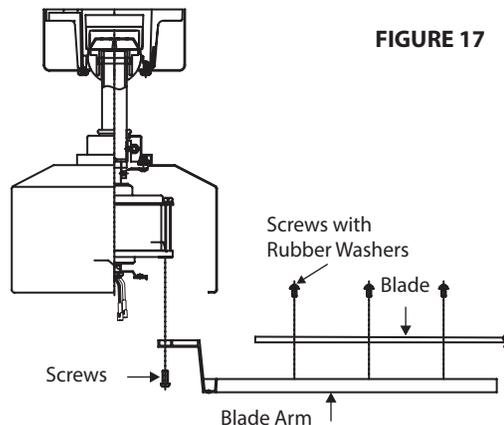

FIGURE 17
1. Attach the blade to the blade arm using the screws with rubber washers as shown in Figure 17.
2. Fasten blade assembly to motor using the screws supplied (Fig. 17).